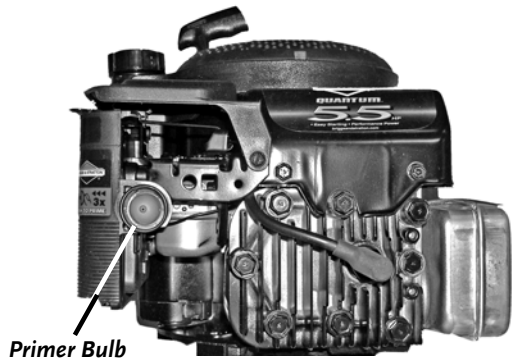

Figure 7
3. If the engine is cold, depress the Primer Bulb three (3) times (**Figure 7** on page 14). In cold weather, you may need to depress additional times, being sure that the Bulb inflates between pumps.
3. If the engine is cold, depress the Primer Bulb three (3) times (**Figure 7**). In cold weather, you may need to depress additional times, being sure that the Bulb inflates between pumps.